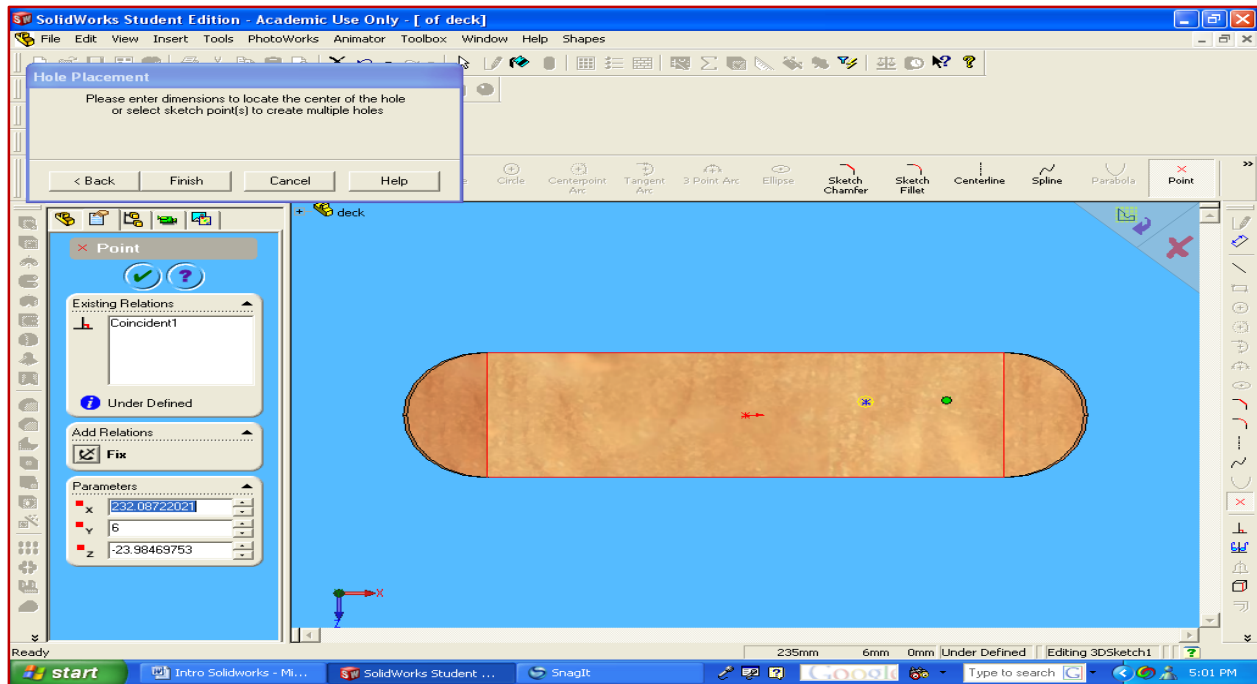

Figure 3.10 – Hole Wizard→Positions Tab
- ✓ The locations of the holes will be defined next. Click the **Smart Dimension** tool and use it to dimension the distance between the leading hole and the line where the deck is bent as shown in Figure 3.10. Type the distance 2 1/4 inches.